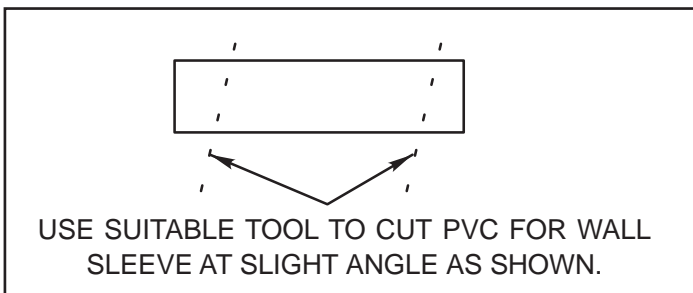

Figure 4. Cutting PVC for Wall Sleeve
8. Once snug, continue another half-turn on each nut which should create a leak-free joint. A torque wrench may be used to tighten flare nuts using table 2 recommendations. See figure 4. **Do not over-tighten a flared joint. Flared connections should always be accessible and must be insulated to prevent condensation.**